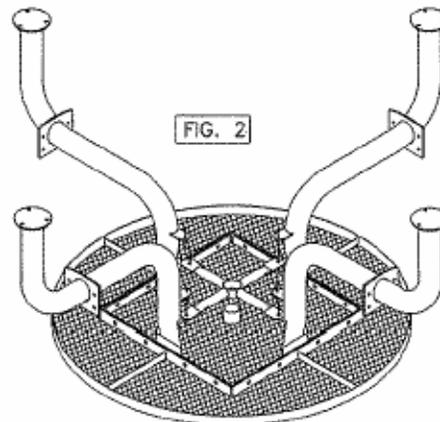

FIG. 2
STEP 2: Attach spider cross brace (D2) to the inverted top side of the mounting tabs using one (G), one (I) and (H), see FIG. 2. After all parts have been secured carefully rotate the table to its upright position.